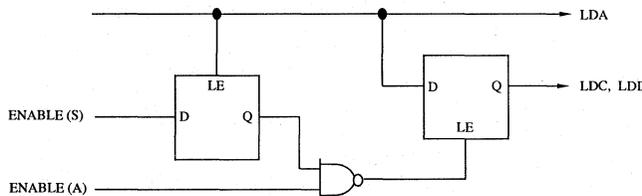
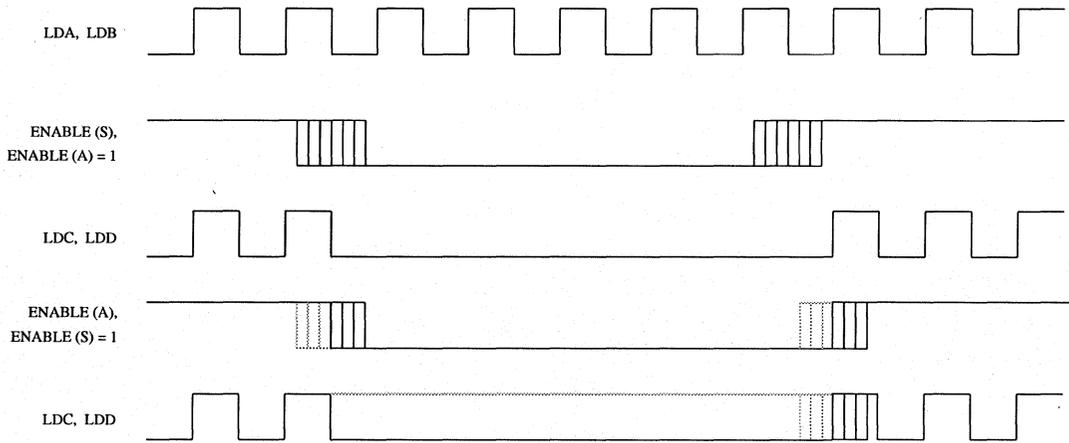

Figure 1. ENABLE Control Implementation.
Figure 2. Load Output Timing.
While both ENABLE (S) and ENABLE (A) are a logical one, LDC and LDD will be free running and in phase with LDA and LDB. This architecture allows the shift registers of the video DRAMs to be optionally nonclocked during the retrace intervals. Figure 1 illustrates the ENABLE implementation within the Bt440, while Figure 2 shows the load output timing.